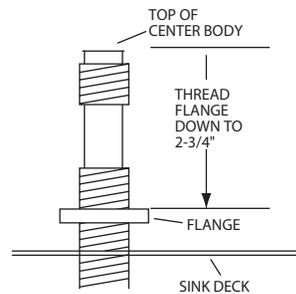

FIGURE 1
2. From underneath sink, insert waterway assembly up through sink faucet drillings. From topside, thread flange onto center body. (See Figure 1.) Add washer and sleeve. Insert spout assembly into sleeve and tighten spout nut. Begin to unscrew flange until washer is flattened against bottom of sleeve.
4. From underneath, tighten (2) faucet locknuts.